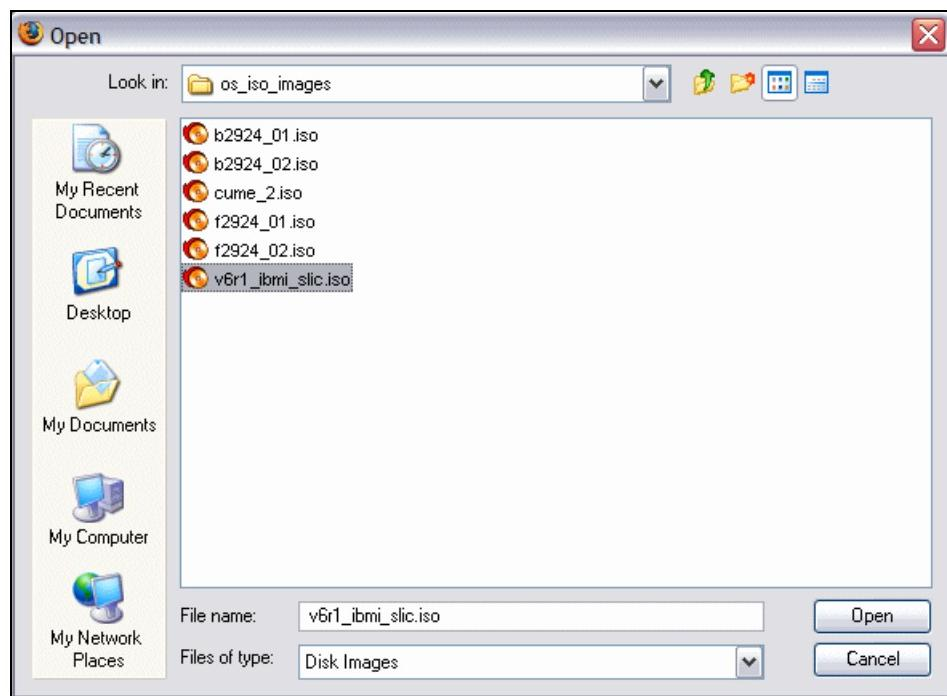

Figure 7-86 Browse and select file
7. Select the **Add** button. You will then be able to browse for the specific file you want to add as shown in Figure 7-86 on page 329.